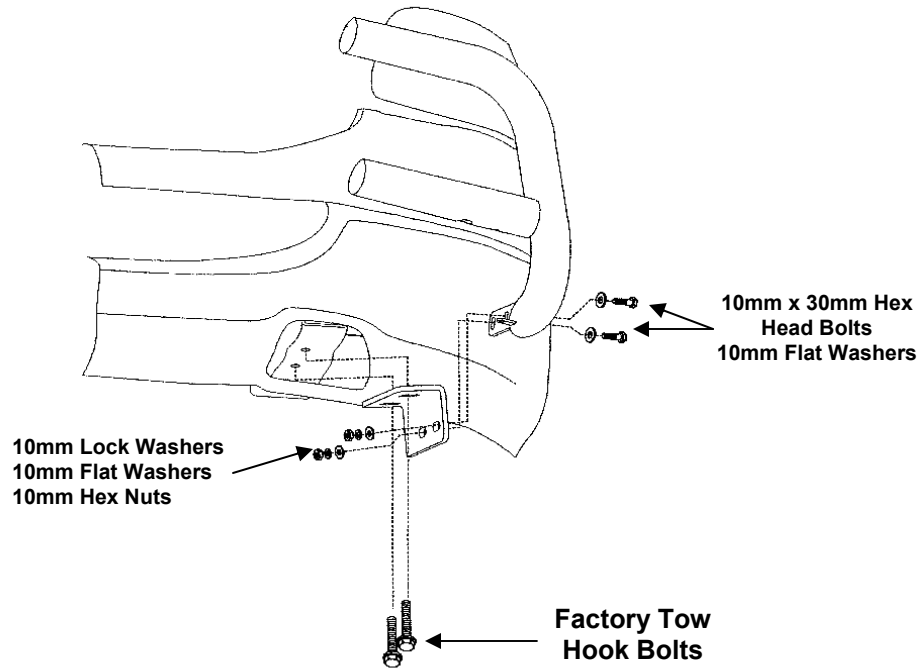

Figure 1
4. Position Bottom Brackets up to bottom frame and secure them with factory tow hook bolts (**Figure 1**).